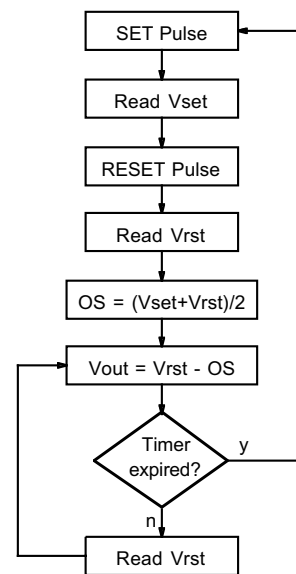
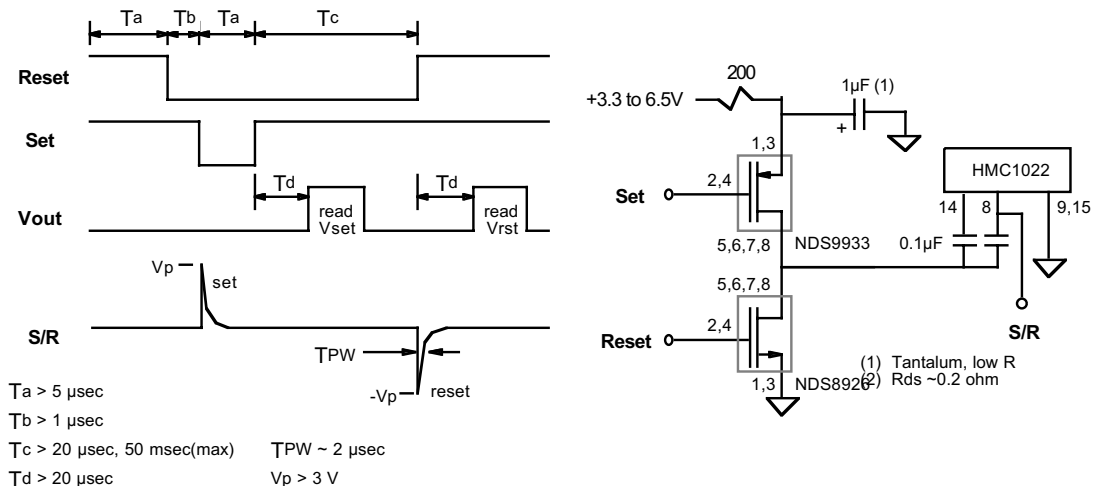

Figure 13—Low Power Set/Rst Flowchart
Figure 14—Single Clock Set/Reset Pulse Circuit (1021/1022)
Low Power—For low power application, down to 3.3 volt supply, the circuit shown in Figure 14 can be used. These low threshold FETs provide low on-resistance (0.3W) at $V_{GS}=2.7V$. The set/reset pulsing does not need to be continuous. To save power, the SET pulse can be initially applied followed by a single RESET pulse. The offset (OS) can be calculated as:
This offset term will contain the DC offset of both the sensor bridge and interface electronics, as well as the temperature drift of the bridge and interface electronics. Store this value and subtract it from all future bridge output readings. Once the bridge is RESET, it will remain in that state for years—or until a disturbing field (>20 gauss) is applied. A timer can be set, say every 10 minutes, to periodically update the offset term. A flow chart is shown in Figure 13 along with a timing diagram in Figure 14 to illustrate this process.